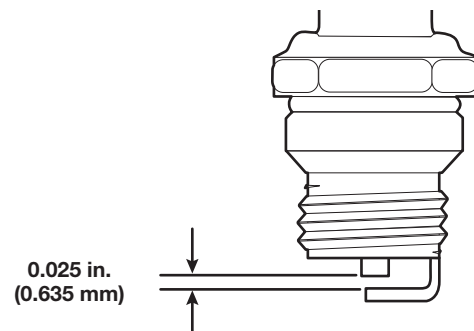

Fig. 25
- Use a feeler gauge to set the air gap at **0.025 in. (0.635 mm)** (Fig. 25).